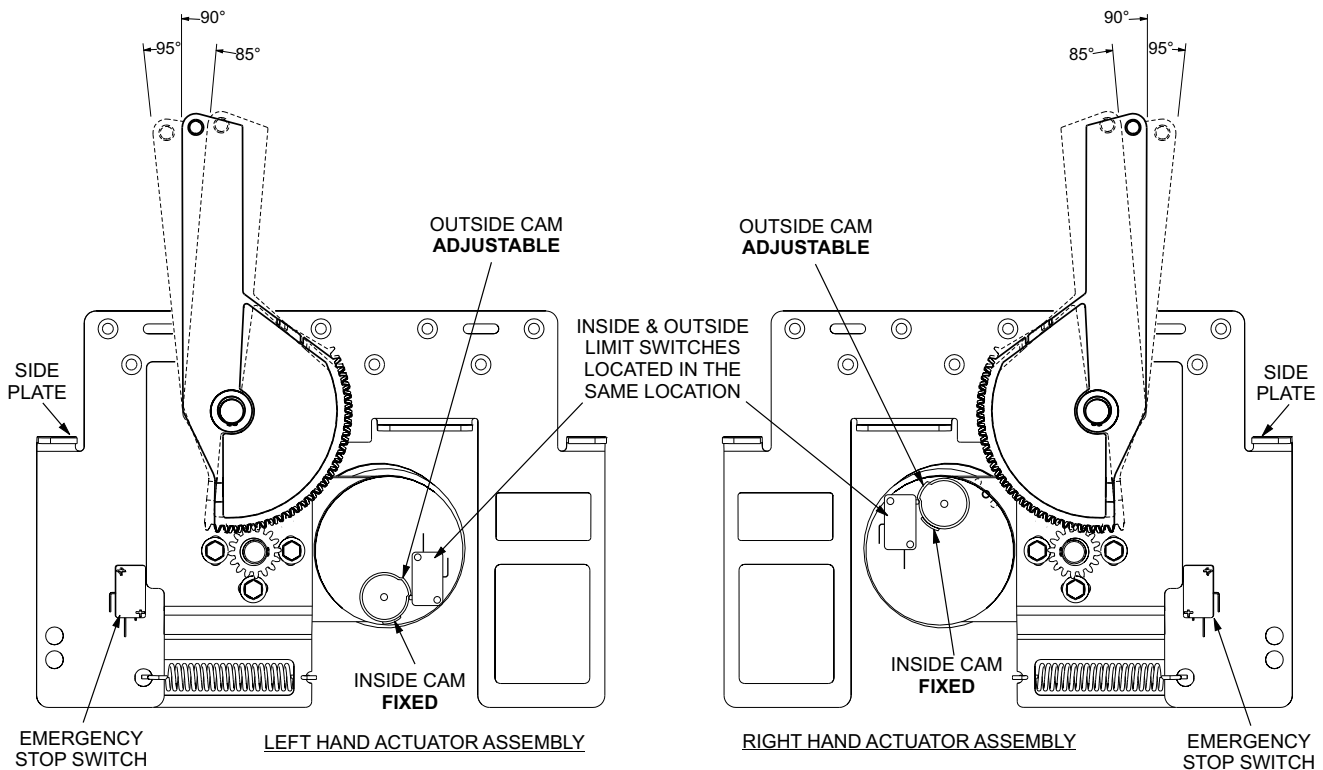

Figure 2
- d. Once the inside limit (“Down”) switch adjustment is made, verify the outside limit (“Up”) switch adjustment by raising the actuator arm. The actuator arm should be opened between 85 to 95 degrees when the outside limit (“Up”) switch is actuated. Adjust the outside white plastic cam by rotating the outside cam by hand. Refer to *Figure 2*.